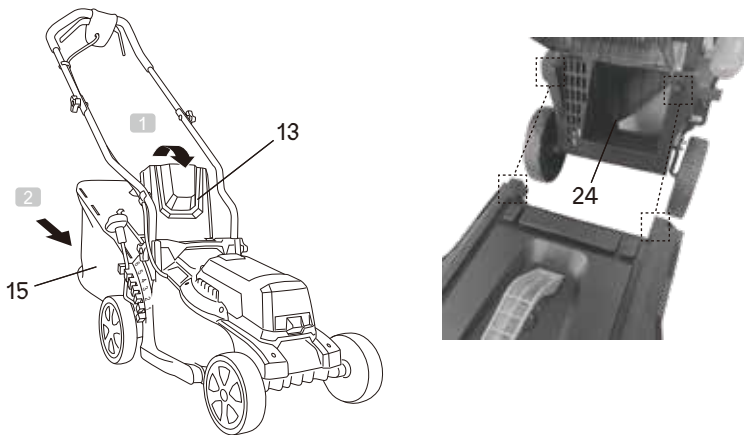

FIG.7
3. Open the deflector guard (13), hold it in position (Fig. 7, Step 1); Insert the grass catcher (Fig. 7, step 2).
4. Align and hook the grass catcher into the attachment slots of rear discharge chute (24).